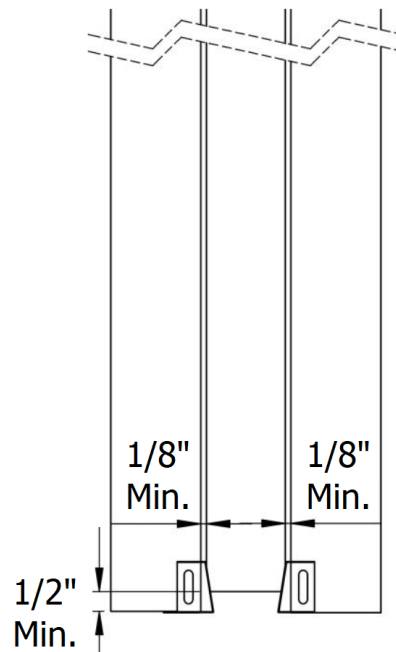

Figure 4
- Create pilot holes to the finish split jamb using a 5/64" drill bit and the Floor Guide as templates. See Figure 4.